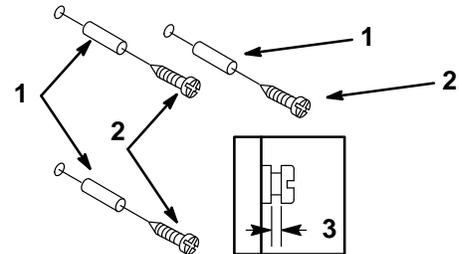

Figure 2
- If installing the charger on wall board, plaster, or cement, insert the three wall anchors into the holes then thread the screws into the wall anchors until they are 1/8 inch (5 mm) from the edge of the wall anchor (Fig. 2).